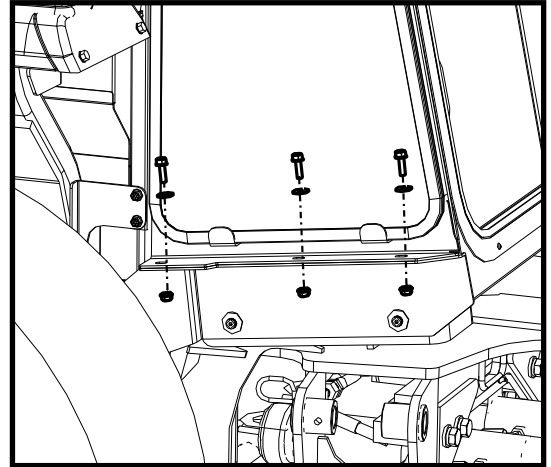

Figure 18.5: Fasten Backhoe Cab
- 18.5 Fasten the backhoe cab to the backhoe cab footers, but be sure to leave the bolts loose (see Figure 18.5, outriggers hidden for clarity).